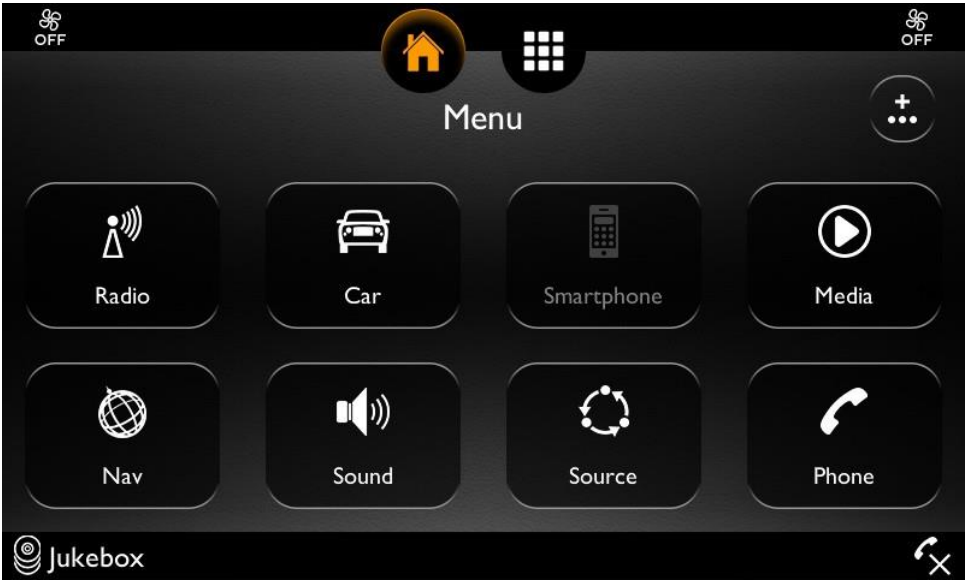

Figure 2
2. Navigate to the main menu screen (Figure 2) by pressing the home button.